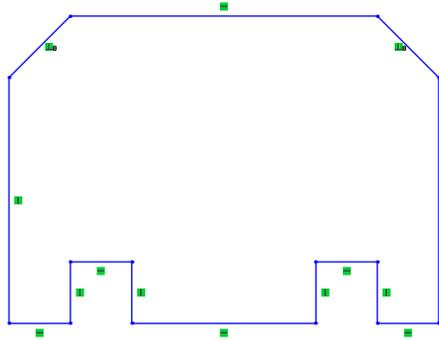

Figure 2-71 Outer loop of the sketch
21. Choose the **Zoom to Fit** tool from the **View (Heads-Up)** toolbar to fit the current sketch into the screen. The outer loop of the sketch is completed and is shown in Figure 2-71. Note that in this figure, the grid display and the **Shaded Sketch Contours** settings are turned off for better visibility. To turn off the grid display, right-click in the drawing area and then choose the **Display grid** option from the shortcut menu displayed.